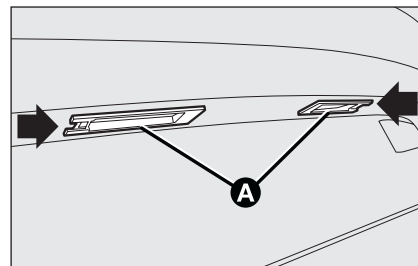

fig. 34
- work in the point shown by the arrow and remove lens unit **A**-fig. 34;